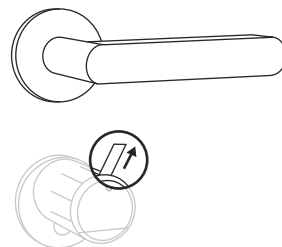

Fig. 7
- ⑦ If you have not already done so, remove the battery protection strip from the battery compartment on the inside knob (Fig. 7).
- 2 Attach the enclosed adhesive pads to the positions shown in the illustration and peel off the backing strips (Fig. 7).